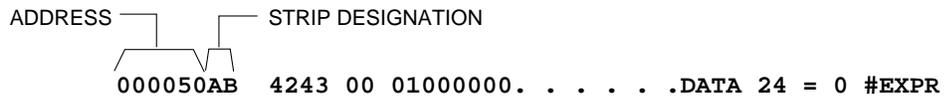

Figure 2. Example of EXPR Data in Listing
- Use the address as indicated in Figure 2 to locate the first failing test Expected Results (EXPR) in the last subroutine called or in PHASE PIDENT if no subroutines are called.